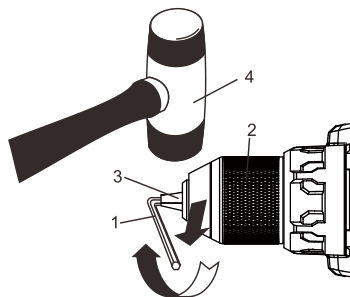
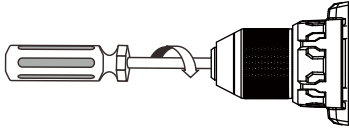
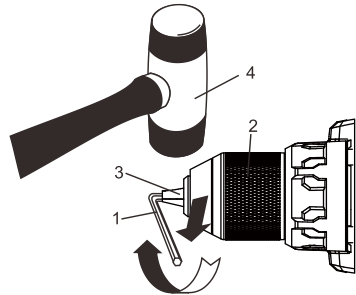

Fig. 13
Fig. 14
Fig. 16
2. Insert a 5/16" (8 mm) or larger hex key (1) into the chuck (2) and tighten the chuck jaws securely (Fig. 13). Make sure each of the chuck jaws (3) is seated on the flat surfaces of the hex key.
3. Tap the hex key sharply with a mallet (4) in a CLOCKWISE direction. This action will loosen the screw in the chuck for easy removal.
6. Remove the chuck screw using a #2 \oplus screwdriver (Fig. 14). NOTE: Turn the screw CLOCKWISE to remove it. This screw has a left-handed thread.
2. Insert a 5/16" (8 mm) or larger hex key (1) into the chuck (2) and tighten the chuck jaws securely (Fig. 16). Make sure each of the chuck jaws (3) is seated on the flat surfaces of the hex key.
5. Tighten the chuck screw using a #2 \oplus screwdriver (Fig 14).